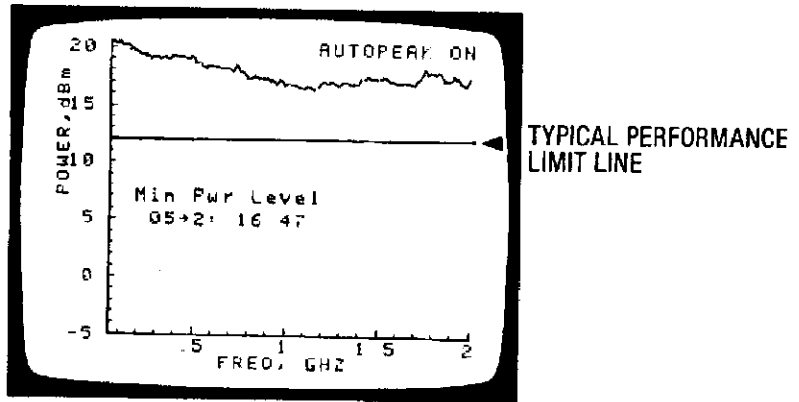

Figure 8-23. HP 8673C/D Low Band Power Plot
57. Compare the plots taken in step 54 with the corresponding plots in figures 8-23 through 8-25. There are three possible results:
- a. The plots taken in step 54 are essentially the same as the corresponding plots in figures 8-23 through 8-25. If this is the case proceed with "AM/ALC Check **⟨✓8⟩**" beginning with step 56.
- c. The power at one or more of the frequencies in one or both of the plots taken in step 54 is significantly lower than the power for the corresponding frequency in figures 8-23 through 8-25, but not below the Typical Performance limit line. This would not necessarily indicate an output power problem but could affect AM and/or ALC operation. Proceed with "ALC/AM Check **⟨✓8⟩**", beginning with step 56.